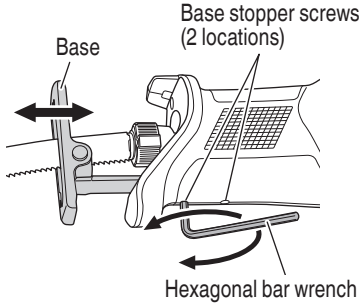

Fig. 12
5. Adjusting the base (Fig. 12)